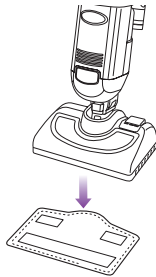

Fig. 26
- 2 Place the multi-purpose steam pad on the floor and position the steam nozzle over it. (Fig. 26)